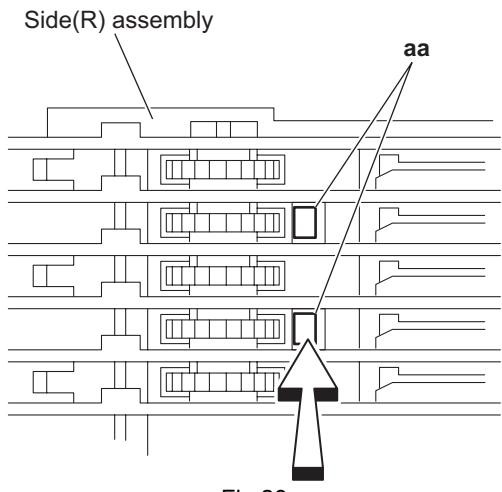

Fig.23
(See Fig.23 to 27)
- (1) From the inside of the side (R) assembly, release the two tabs **aa** of the gear cover and remove the gear cover outward. (See Figs.23 and 24.)